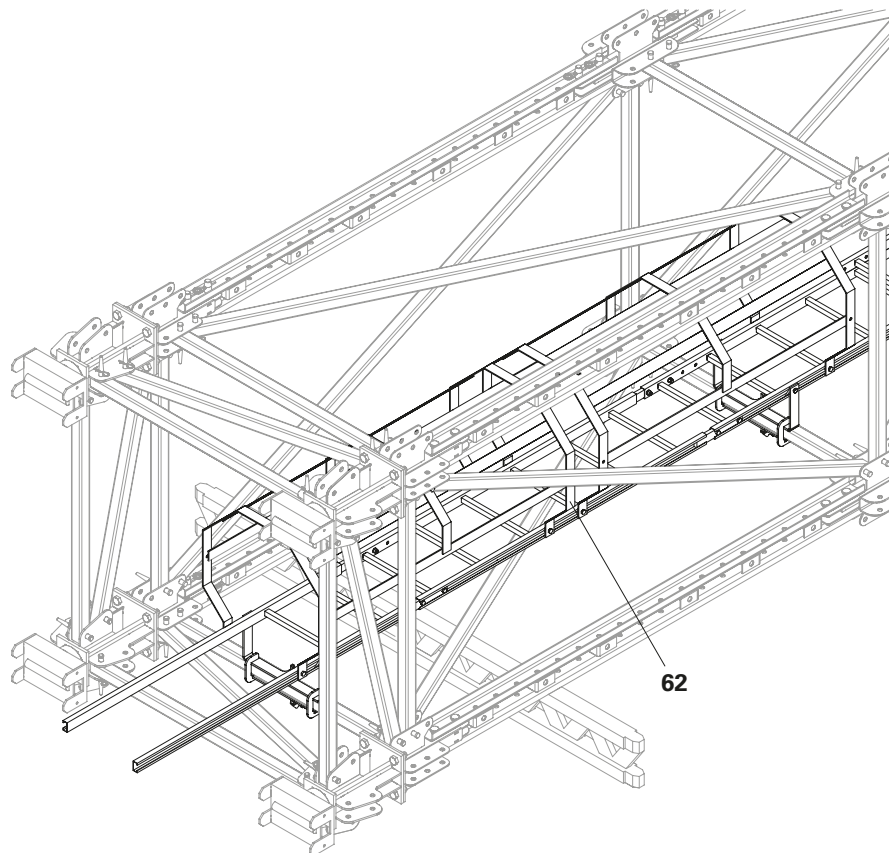

Fig. A1.43
4. Fasten the Ladder Safety Cage 75/150 (**62**) using clamping plates (**44.1**) according to plan. Depending on the situation, mount with overlapping ladder joints. (Fig. A1.43)